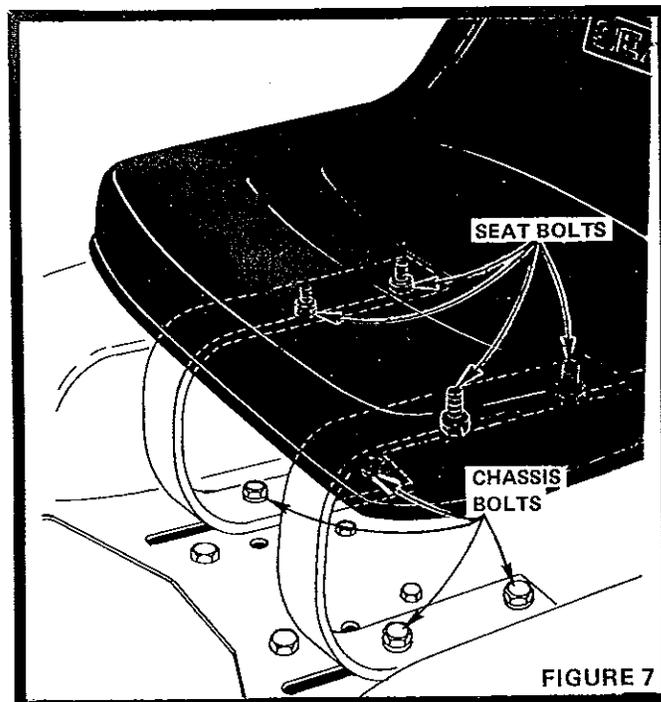

FIGURE 7
- For maximum adjustment remove Seat Bolts, position Seat with forward or rearward set of holes, and tighten Bolts (Fig. 7).
- For fine adjustment loosen Chassis Bolts, slide Seat to desired position, and tighten Bolts securely (Fig. 7).